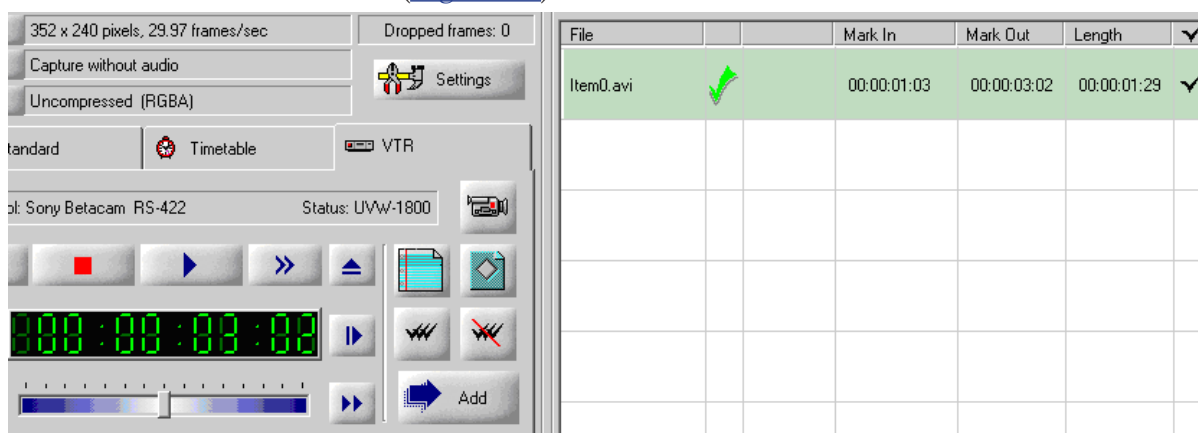

Figure 33. Setting the record mark out
2. Find a new record ending mark (Mark Out) with the help of the VTR control buttons. Pressing the Add button adds the value to the timetable list (to the Mark Out column) (Figure 33).